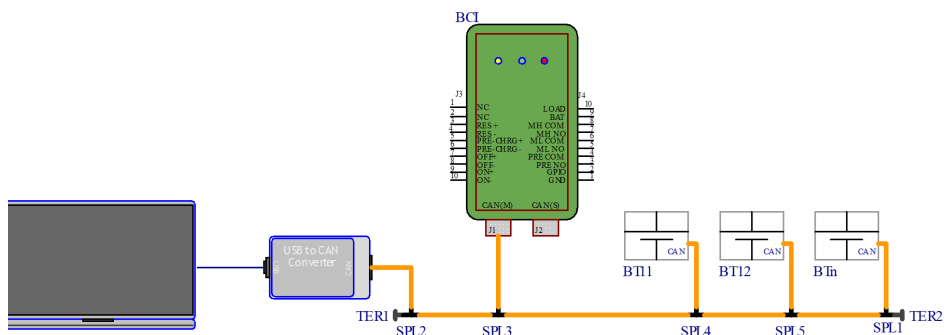

Figure 15. Renumber battery 1
For connecting the BCI to a computer, a CAN to USB converter is required, see table 12. Refer to Figure 15 for connecting the CAN to USB converter to the BCI.
1. Connect one Li-ion battery to the CAN Master bus (see figure 15).